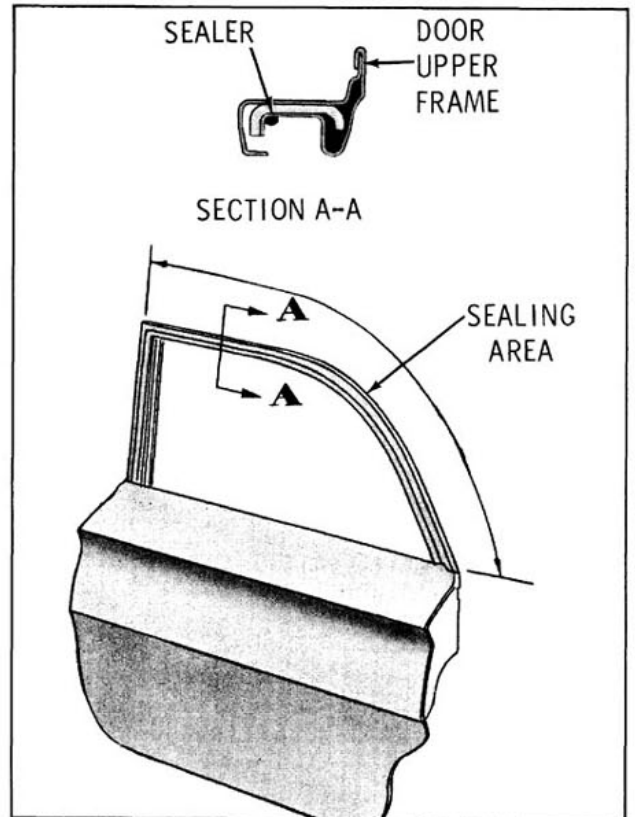

Fig. 16-73 Glass Sealing
5. Prior to installation, apply a bead of medium bodied sealer along section of door window upper frame shown in Fig. 16-73.